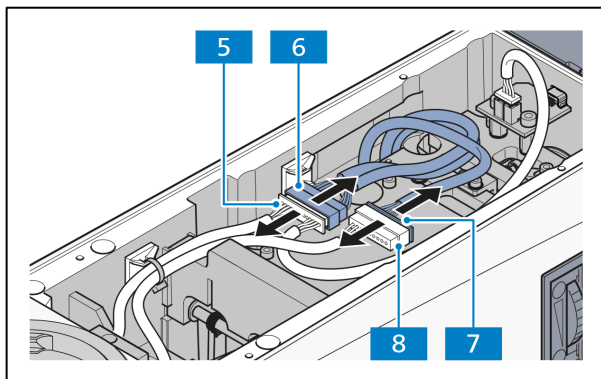

Fig. 3-54 Disconnecting the cable connections
- Disconnect the cable connection between the main control board (Fig. 3-54/7) of the lower stand part and the nosepiece sensor of the upper stand part (Fig. 3-54/8).
- Disconnect also the cable connection between the main control board (Fig. 3-54/6) and the turret sensor/RL LED interface (Fig. 3-54/5).